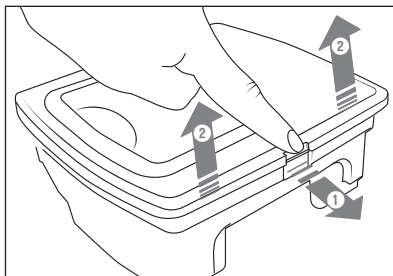

Fig. 7
- 2) Open the latch on the lid of the dust container **12** and flip it up (see Fig. 7).